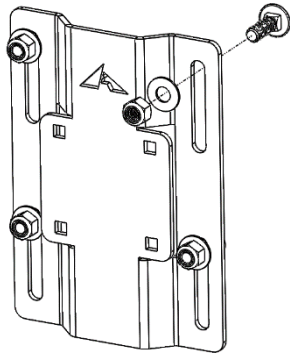

Figure 1: Carriage Bolt Installation
3. Loosely install four (4) carriage bolts with a corresponding washer and nut onto the accessory. Ensure the back of the carriage bolt is facing the rear (Figure 1). Hand-tighten the nut onto the bolt until the nylon is reached, leaving the bolt loose on the accessory.
9. Install the shelf using the provided 5/16" bolts, washers, and nuts. Use the 1" hex bolts for the top mounting locations and use the longer 2 1/4" bolts and 1 1/4" spacers for the bottom locations. Install the shelf as shown in Figures 1 and 2.